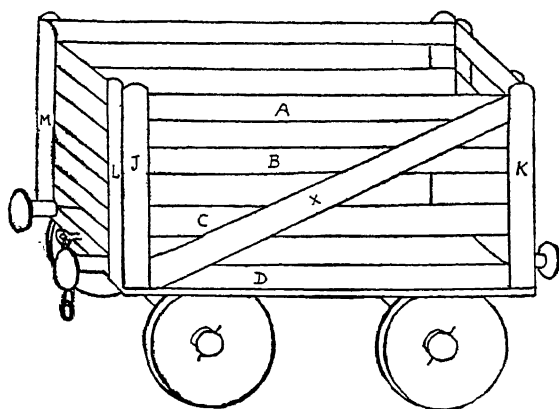
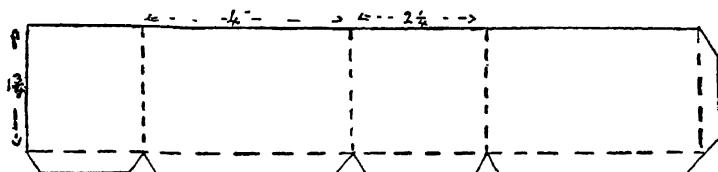

FIG. 234
FIG. 235
(3) *A Cattle Truck* (Fig. 234). The foundation is a piece of wood, 4 inches by $2\frac{1}{4}$ inches. The sides may be cut from one piece
of cardboard (Fig. 235) and coloured to represent bars, as in Fig. 234. It may also be made of wood as follows: Cut eight thin
strips of wood, $4\frac{1}{2}$ inches by $\frac{1}{4}$ inch, A B C D, etc., and eight pieces $1\frac{3}{4}$ inches by $\frac{1}{4}$, J K L M in Fig. 234. The pieces are glued together